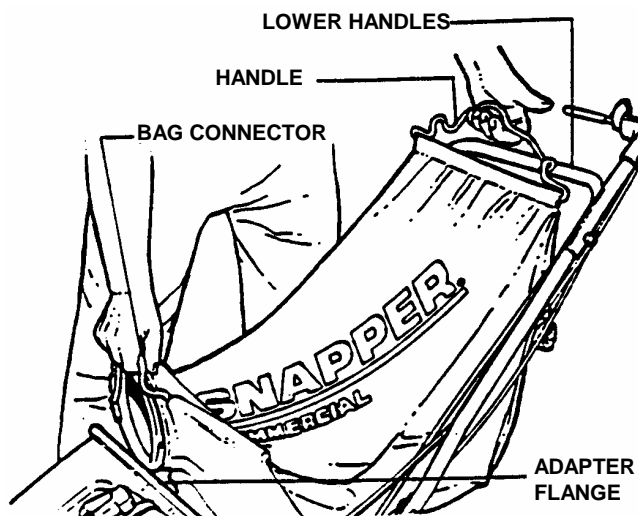
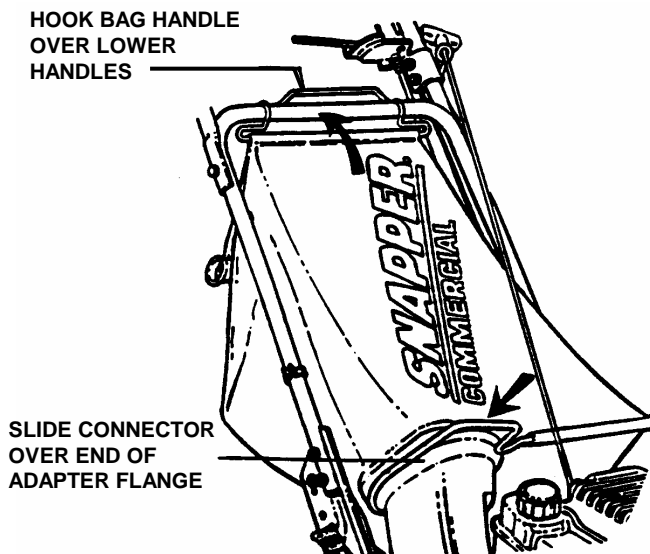

FIGURE 2.10
FIGURE 2.11
Position grass bag between handles. See Figure 2.10. Install grass catcher by sliding connector over flange of adapter. Attach grass bag hooks over middle handle cross bar. See Figure 2.11.
1. Grasp bag connector and bag handle as shown. See Figure 2.10.